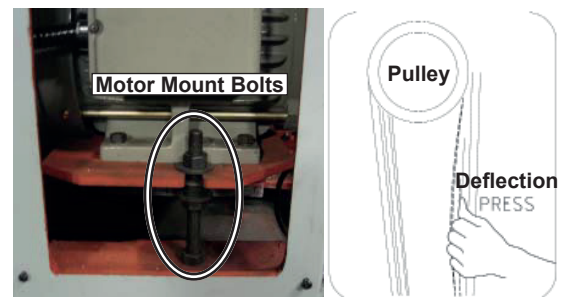

Fig. 90 V-belt adjustment
3. Turn the hex nuts on the motor mount bolts shown in figure 90 to move the motor mount plate up or down and adjust the V-belt tension. When correctly tensioned, each belt should have about 19 mm deflection when pressed firmly.